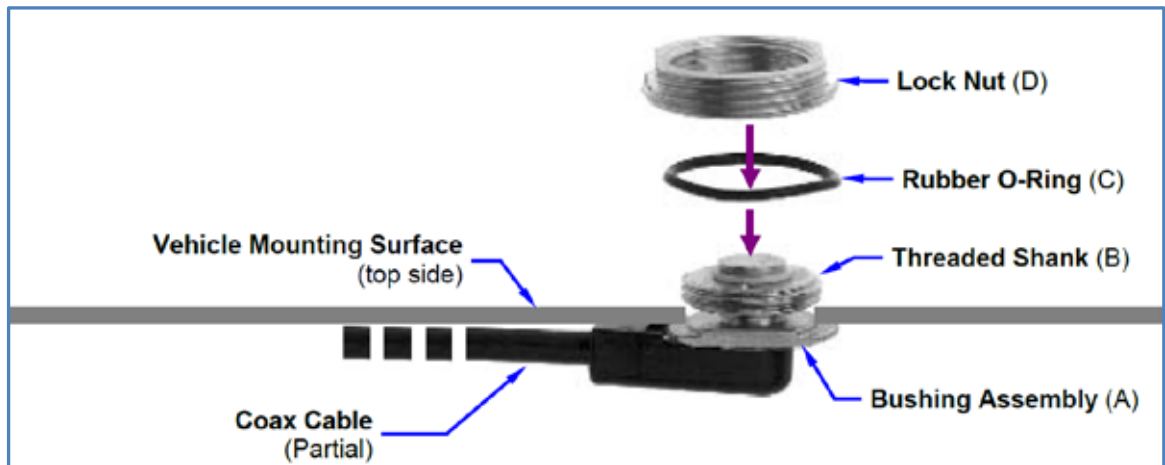
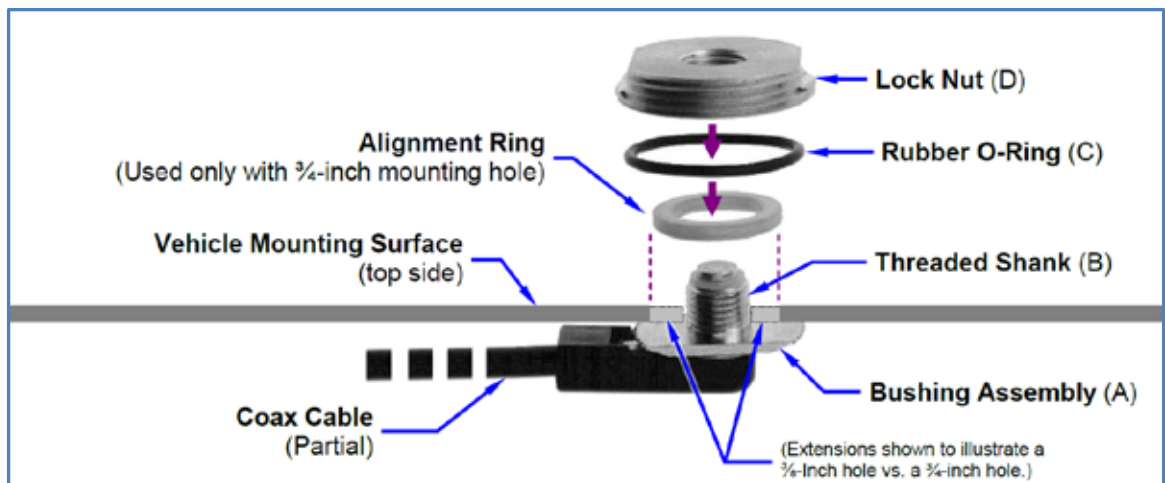

Figure 7-2: Installing Standard 3/4-Inch NMO Antenna Mount AN-125001-002
Figure 7-3: Installing Thick-Roof NMO Antenna Mount AN-125001-004
10. As illustrated in Figure 7-2 and Figure 7-3, add the O-ring (C) and lock nut (D) to the top of the mount's bushing assembly (A). With the O-ring in the groove in the underside of the lock nut, thread the lock nut onto the bushing assembly. Be sure the O-ring remains in the groove before tightening the lock nut.
2. Place the gasket included with the antenna element (not pictured in Figure 7-2 or Figure 7-3) around the mount and against the surface of the vehicle. If a lubricant or sealant was included with the gasket, apply it to the gasket before placing the gasket.